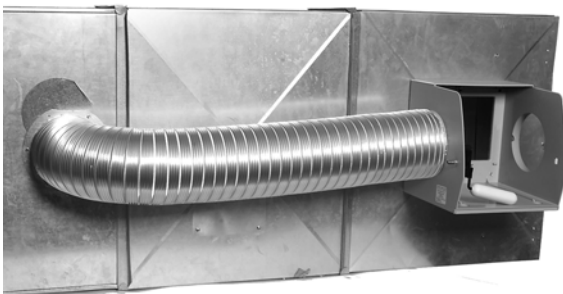

Fig. 12. Installing flex duct.
1. Carefully stretch out flexible Bypass Duct between Bypass Collar and Humidifier. See Fig. 12.